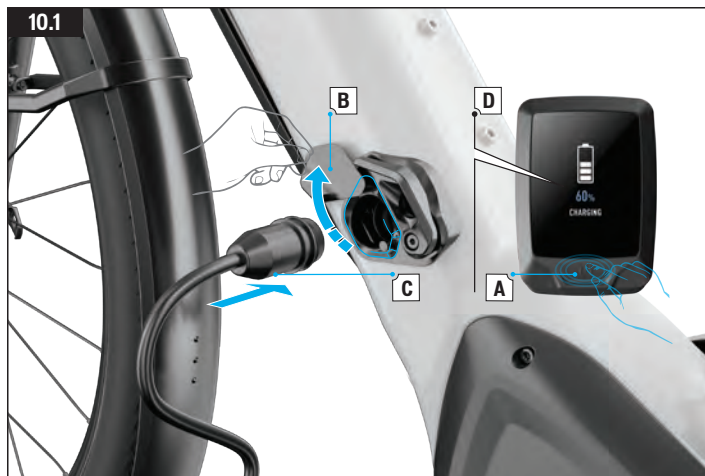

Fig. 10.1
- Once the battery is charging, you should see visual cues on the MasterMind TCD-w (Fig. 10.1 D) indicating the charging status.
- During the charging process, the diode on the charger will glow solid red (1). When the battery is fully charged, the diode on the charger will turn solid green (2).